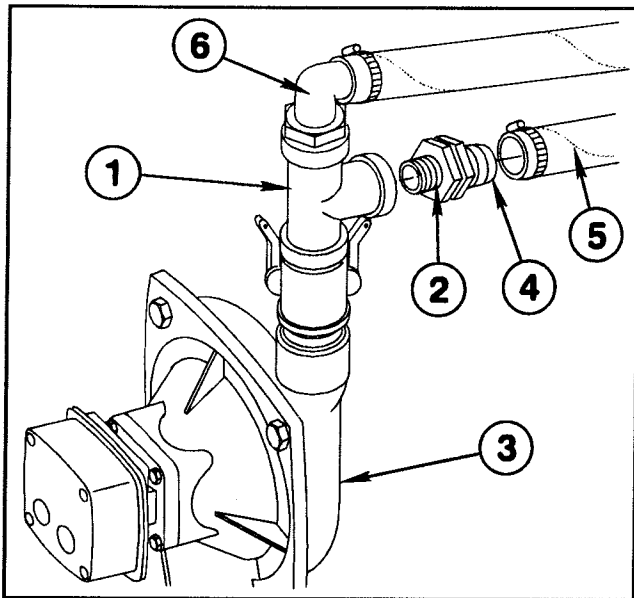

Figure 10
19. Apply thread sealer and install a 90° hose barb into the top of the Tee at the pump for Boom supply. Attach one end of the 1-1/4" x 52" Supply Hose to the 90° hose barb, and secure with a hose clamp. (See FIG. 10)
25. Apply thread sealer and install Reducing Bushing into side of Tee on top of Pump. Install 1" MPT x 3/4" hose barb into Reducing Bushing, and attach one end of the Agitator Solenoid Feed Hose. (See FIG. 10) Secure with a hose clamp. Attach other end of hose to the 90° hose barb at the side of the Single Solenoid Assembly. (See